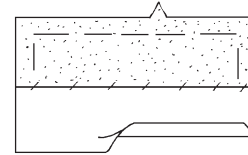

Fig. 11-6
2. Press the long unnotched seam allowance of the cuff to the wrong side of the fabric along the seam line and baste if necessary. (Fig. 11-6)